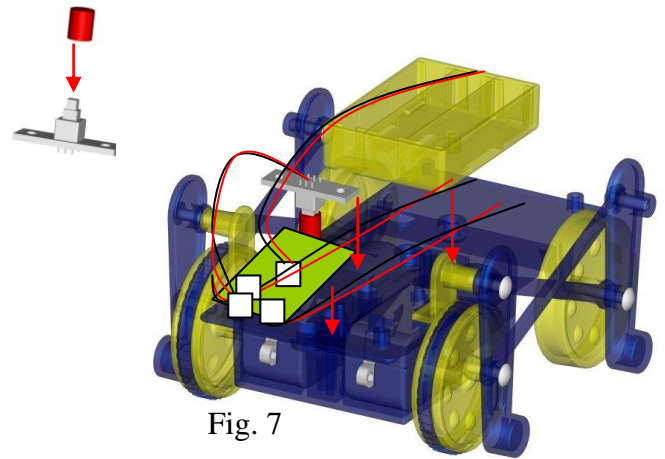

Fig. 7
5. Cover the switch (16) with the cap (17). Install the battery box (15), the switch (16) and the circuit board (21) on the chassis. See Fig. 7.